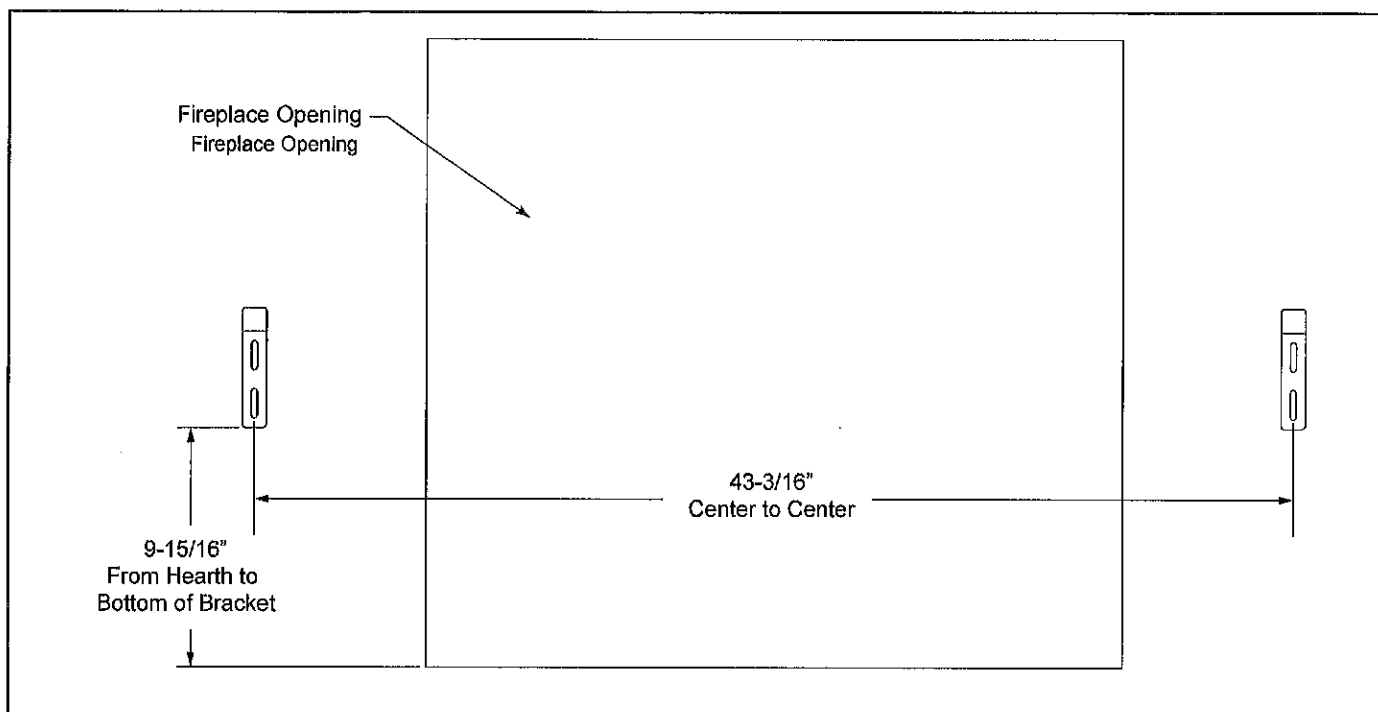

Figure 4
4. To install the surround with the optional wall brackets, position the wall brackets on both sides the fireplace as show in (Figure 4) Trace around the bracket slots. Drill a hole at the center of each slot and use the appropriate wall anchor for your fireplace surface (masonry screw, lead screw anchor, wedge anchor, etc.) Attach the wall brackets.